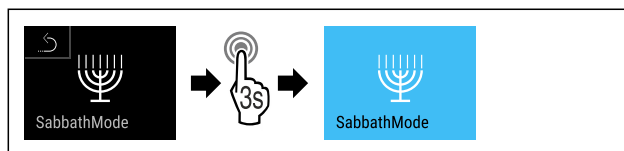

Fig. 71
- ▶ Complete the steps (see Fig. 71).